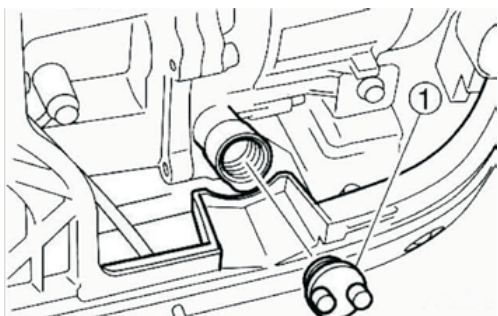

Figure 2
Place the generator on a level surface. DO NOT tilt the generator while adding oil. It can cause you to overfill the oil and/or cause the oil to leak into areas in which it is not intended. Remove the oil filler cap ① (seen in figure 2)